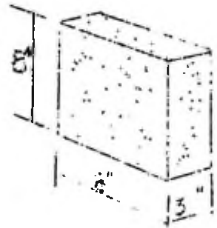

FIG. 3
- d. Build corner to window sill height. See Fig. 3(d)